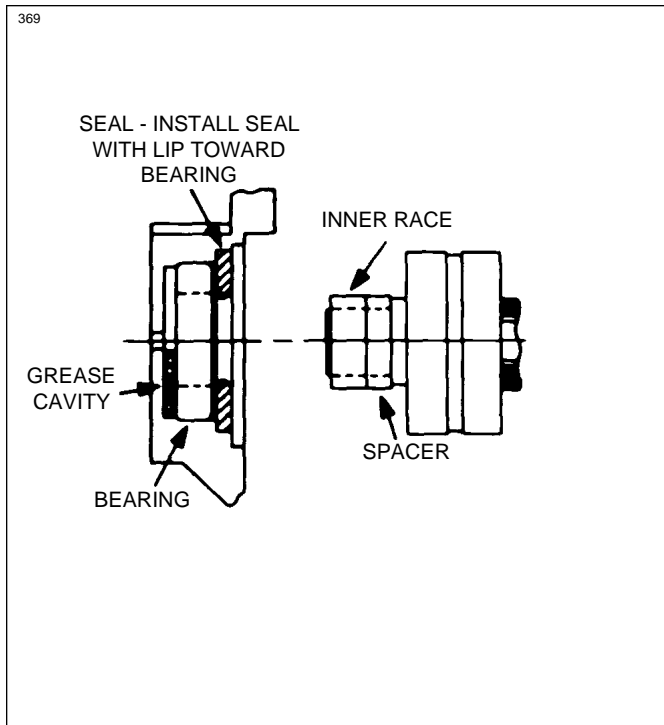

Figure 11-13. Slip Ring End Bearing Assembly
e. Install the slip ring end bearing and oil seal. Make sure the lip of the oil seal is toward the bearing. Stake the seal in place. Correct assembly of bearing, seal, inner race and spacer is as shown in Figure 11-13.